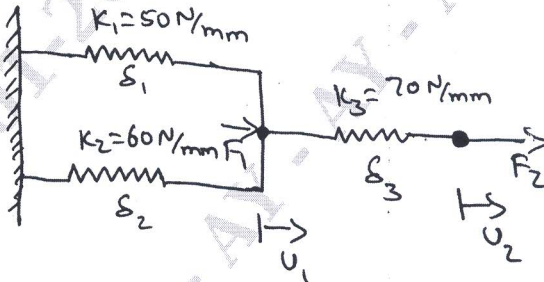

Fig Q1(b)
- b. For the spring system shown in Fig Q1(b) using principle of minimum potential energy determine nodal displacement. Take $F_1 = 75\text{N}$ and $F_2 = 100\text{N}$.